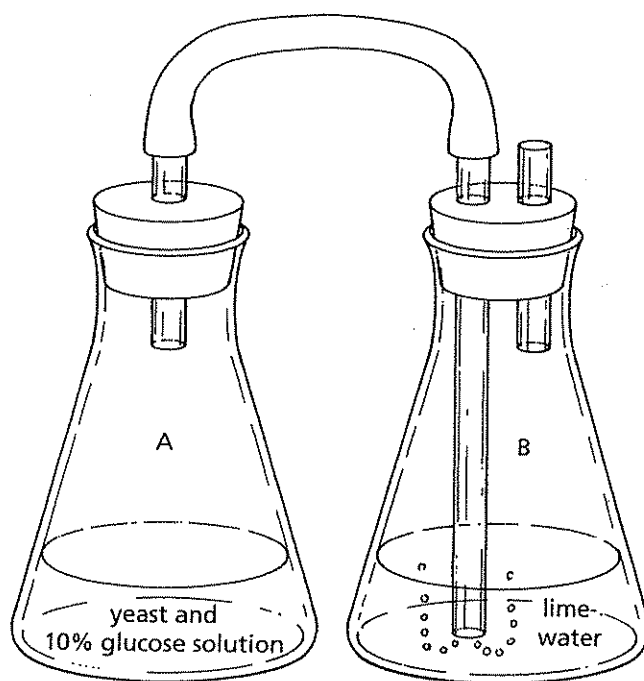

Figure 1
3. Cap the flask with the one-holed stopper fitted with a short glass tube. See Figure 1, flask *A*. Swirl the contents of the flask again. Set it aside.
5. Pour 50 mL of limewater into flask *B*, using a clean graduated cylinder. Stopper the flask with the two-holed stopper fitted with a long and short glass tube. Make sure that the long glass tube extends well beneath the surface of the limewater as shown in Figure 1, flask *B*. **CAUTION:** *It is very easy to cut yourself when pushing glass tubing into a rubber stopper. If the glass tubing is not correctly positioned, ask your teacher to help you adjust it.*
6. Watch as your teacher assembles two control setups: (1) a flask containing yeast and warm water connected to a flask containing
7. Using rubber tubing, connect the short glass tube in flask A and the long glass tube in flask B as shown in Figure 1. Make sure the connections are tight. You wish gas to flow from flask A into the limewater in flask B.